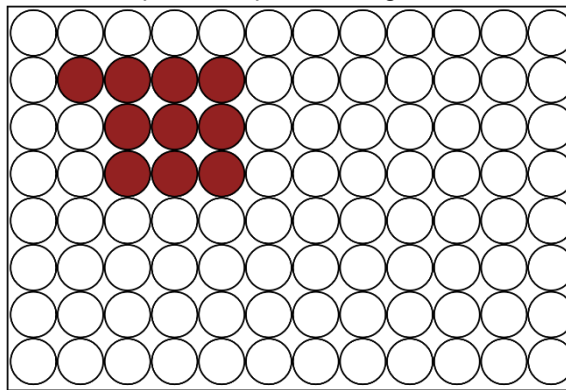

Figure 2. Well plate 1
- c. The placement of the samples is depicted in Figure 2.